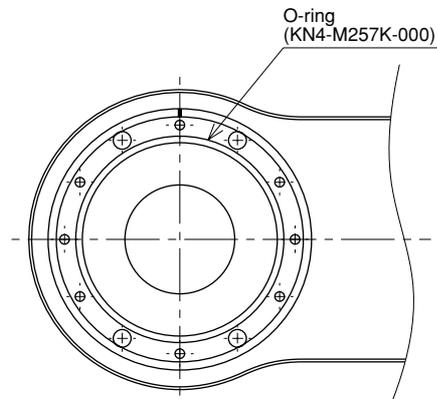

**Fig. 5-25**
- 11) Remove the Y-axis harmonic drive installation bolts (M3×40L, 8 pieces) from the bottom of the arm. (See Fig. 5-25.)
- 14) Place the new harmonic drive on the X-axis arm, and secure it with the bolts (M3×40L, 8 pieces) you removed earlier. Apply small amounts of "Screw Lock" to the bolts and tighten them uniformly to secure the harmonic drive from the backside. (See Fig. 5-25.)